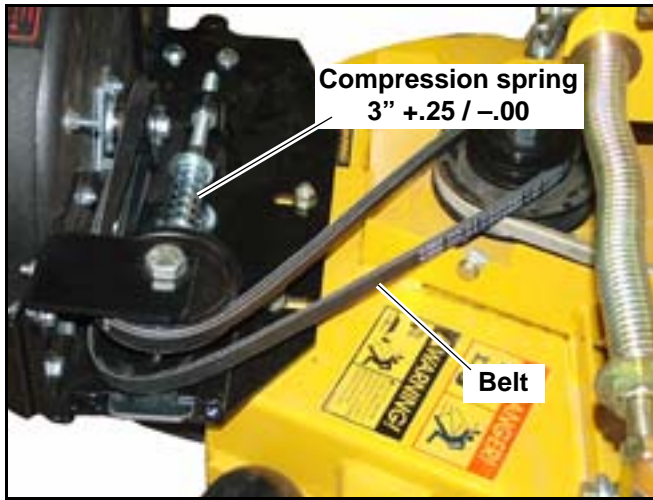

Figure 3-4
6. Install and route the blower belt, supplied with the correct adapter kit, to the deck per Fig. 3-4. Tension the belt, using the belt tension bolt until the the tension spring is compressed to a length of 3" + .25 / - .00".